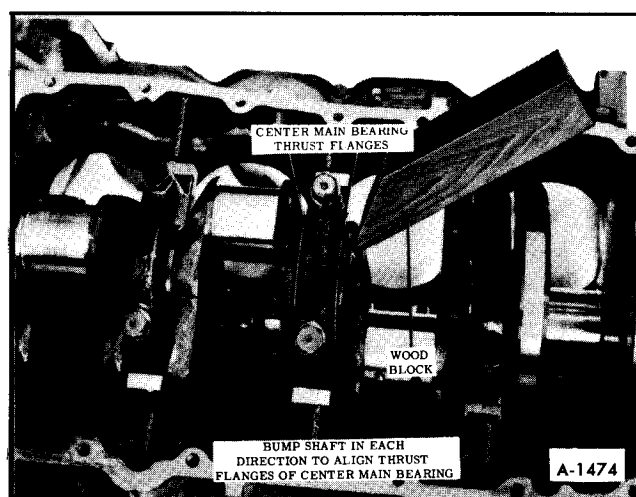

Figure 68—Aligning Center Main Bearing Flanges
5. With a block of wood (figure 68) bump shaft in each direction to align thrust flanges of center main bearing.